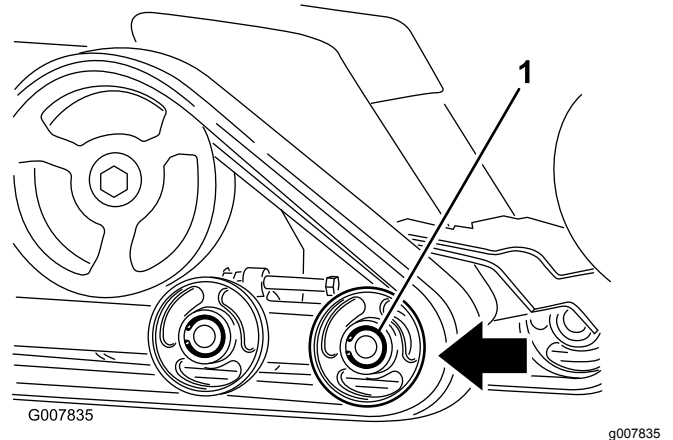

Figure 44
6. Push the front road wheel rearward as far as it can go (Figure 44).
8. When the track is off the road wheel, remove it from the machine (Figure 44).
9. Beginning at the drive wheel, coil the new track around the wheel, ensuring that the lugs on the track fit between the spacers on the wheel (Figure 44).
10. Push the track under and between the rear and center road wheels (Figure 44).